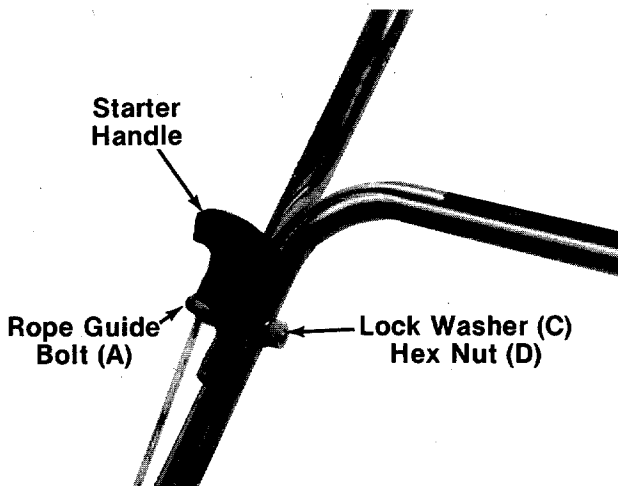

FIGURE 5.
5. Insert the rope guide bolt (A) through the right hand side of upper and lower handle.
7. Slip the starter rope into the rope guide bolt as shown in figure 5. Secure the rope guide bolt with lock washer (C) and hex nut (D). If more slack is needed in the starter rope, disconnect and ground the spark plug wire. Depress the blade control handle and pull additional rope out from the engine.